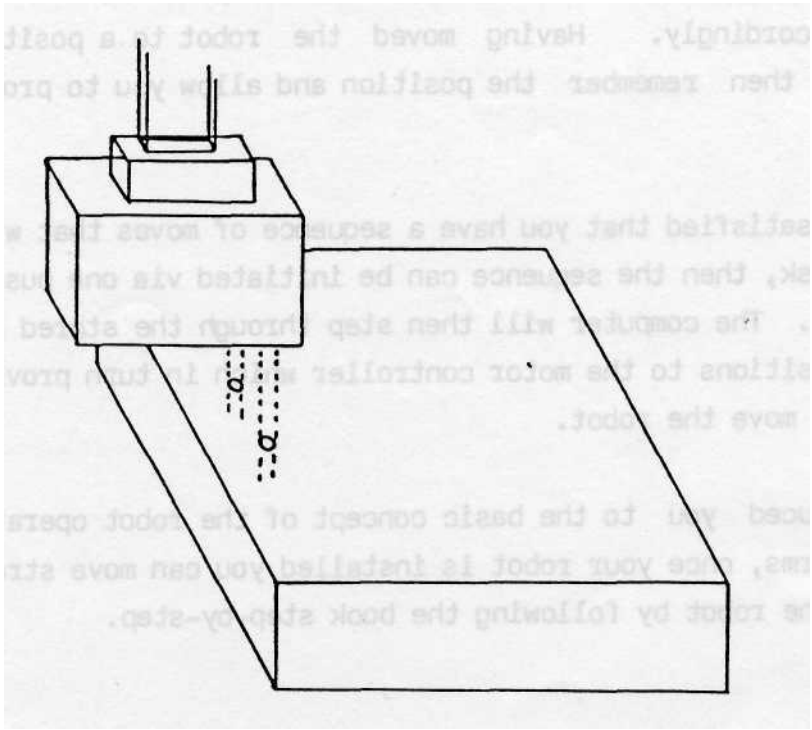

FIG 2.2.2
2. Use one person to hold the robot horizontally, again taking care to take the weight of the robot arm. The other person is then free to line up the holes in the case base to those in the robot base (see fig 2.2.2).